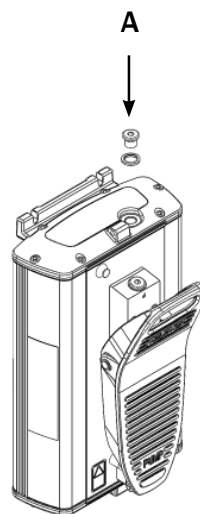

Fig. 5
- Stand the pump on end with the level glass at the bottom (Fig. 5).
- Unscrew the oil filler plug (Fig. 5, item A).